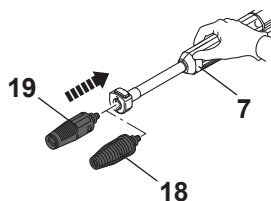

Fig. 8
1. Always attach the extension lance (7) when using the rotary nozzle (18) (Fig. 8).
1. Always use the vario nozzle (19) with the extension lance (7) attached (Fig. 8).